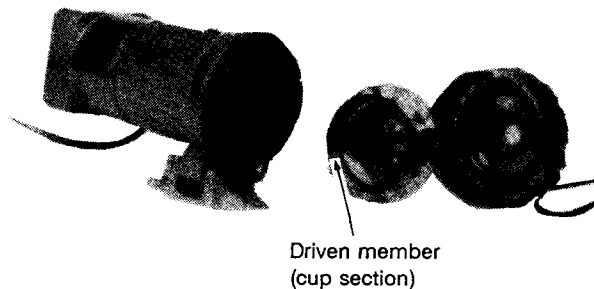

Fig. 36 View of Motor after Bracket and Clutch Shaft Are Removed
- 7) Hold the clutch shaft by hand and pull to this side gently. Driven member (cup section) and brake lining can be disassembled together with the clutch shaft. (Fig. 36)